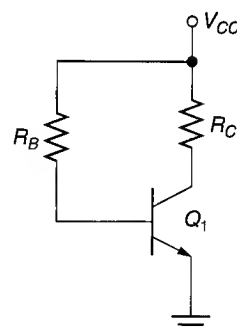

FIGURE 7.34
- The circuit shown in Figure 7.34 has values of $V_{CC} = 8 \text{ V}$ and $R_C = 3.3 \text{ k}\Omega$. Plot the dc load line for the circuit.
- The circuit shown in Figure 7.34 has values of $V_{CC} = 24 \text{ V}$ and $R_C = 9.1 \text{ k}\Omega$. Plot the dc load line for the circuit.
- The circuit shown in Figure 7.34 has values of $V_{CC} = 14 \text{ V}$ and $R_C = 1 \text{ k}\Omega$. Plot its dc load line. Then, use equation (7.6) to verify the load line V_{CE} values for $I_C = 2 \text{ mA}$, 8 mA , and 10 mA .
- The circuit shown in Figure 7.34 has values of $V_{CC} = 20 \text{ V}$ and $R_C = 2.4 \text{ k}\Omega$. Plot its dc load line. Then, use equation (7.6) to verify the load line V_{CE} values for $I_C = 1 \text{ mA}$, 5 mA , and 7 mA .
- The circuit shown in Figure 7.34 has values of $V_{CC} = 8 \text{ V}$ and $R_C = 1 \text{ k}\Omega$. Plot the dc load line for the circuit. Then, use your dc load line to determine the midpoint-bias values of I_C and V_{CE} .
- The circuit shown in Figure 7.34 has values of $V_{CC} = 36 \text{ V}$ and $R_C = 36 \text{ k}\Omega$. Plot the dc load line for the circuit. Then, use your dc load line to determine the midpoint-bias values of I_C and V_{CE} .